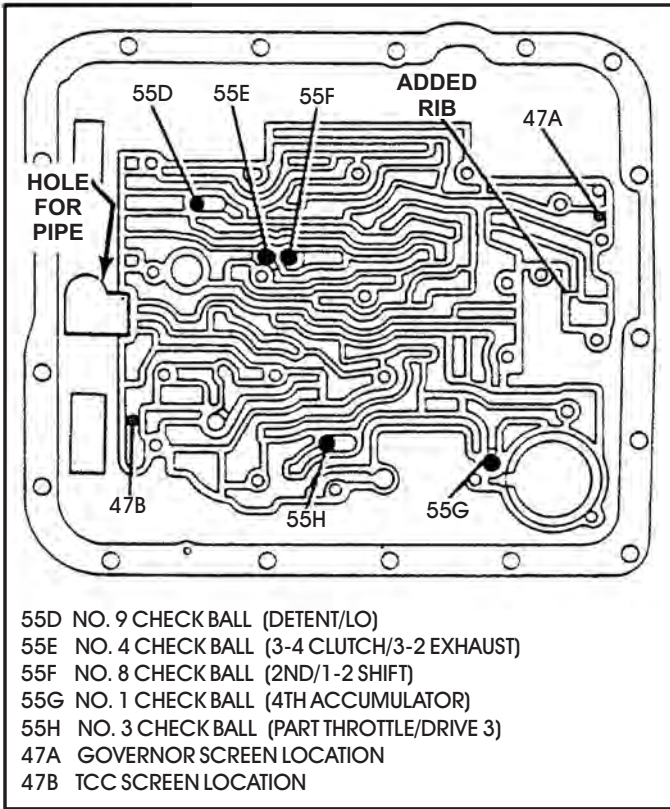
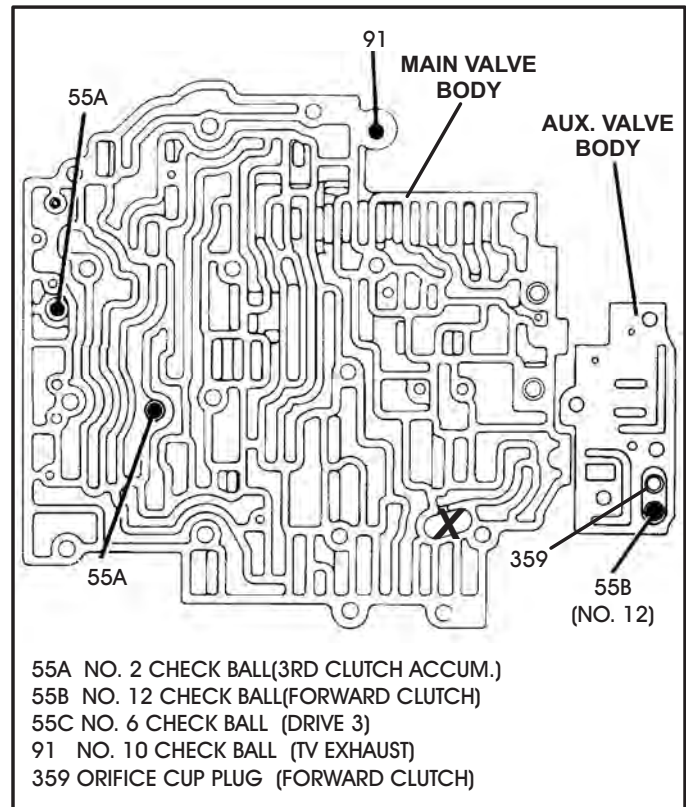

Figure 25
Figure 28
- (2) **TRANSMISSION CASE** - Total of four changes and they are as follows:
- (a) The case has a "Rib" added to the worm track area at the rear, in the low/reverse passage, as shown in Figure 25.
- (b) The case has a cast, pipe window, added in the front center, as shown in Figure 25, to allow an added forward clutch feed pipe to be inserted into the forward clutch feed hole in the oil pump cover (See Figure 25).
- (3) **VALVE BODY CHECK BALL LOCATIONS** - Check ball number 5 located in the "Bathtub" in the main valve body has been eliminated, as shown in Figure 28. Check ball number 12 has been added to the new auxiliary valve body, as shown in Figure 28.
- (1) *"Do Not"* install the number 5 check ball in the main valve body on any 1987 and later model THM 700-R4 transmission, that uses the Auxiliary Valve Body (See Figure 28).
- (2) The 1987 case can be used on 1982-1986 models, but you *Must* do the following:
- (a) Remove the added RIB in the low/reverse case passage with a die grinder (See Figure 25).